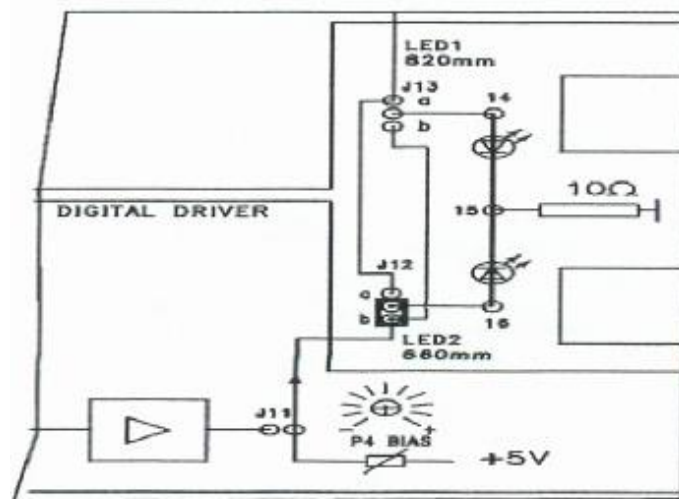

Figure 3.1: Connection Diagram
2. Disconnect the jumper j11-j13 if connected and connect the jumper j12b, so that the circuit can be arranged as shown in fig 3.1. this configuration includes the LED at 660nm, forward polarized through the bias trimmer (p4)